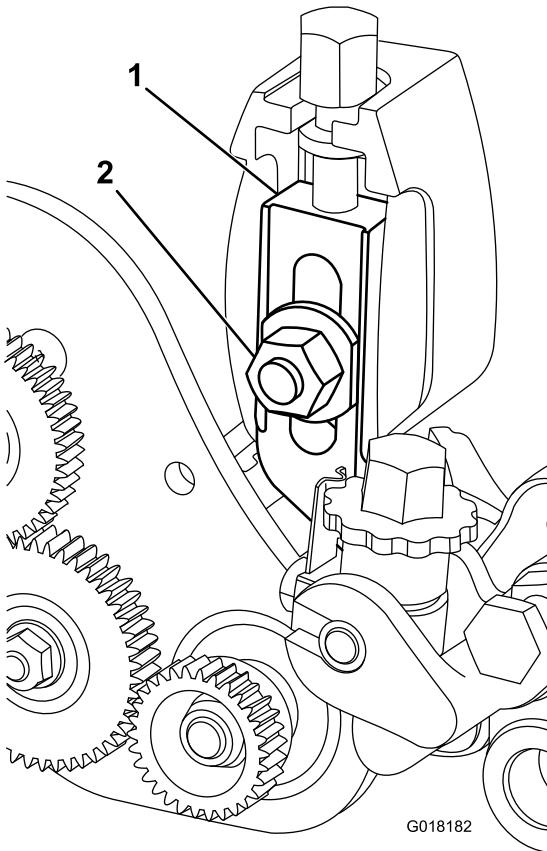

Figure 29
4. Remove the plow bolt, nut, and washer securing the height-of-cut arm assembly to the side plate (Figure 29).